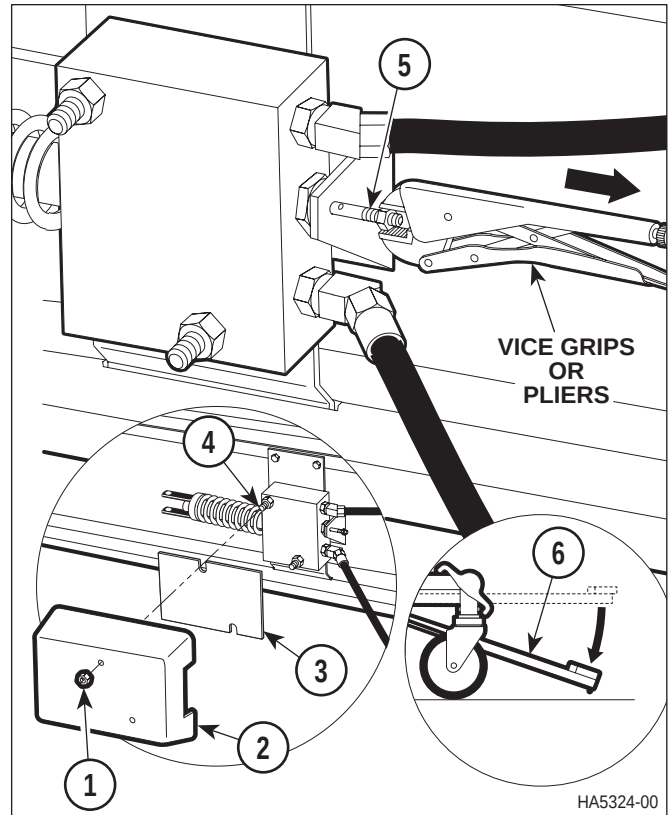

Figure 4-5. Purge Air From Hydraulic System
- (2) Remove two nuts (1, Figure 4-5), pump cover (2), and pad (3) from two bolts (4).